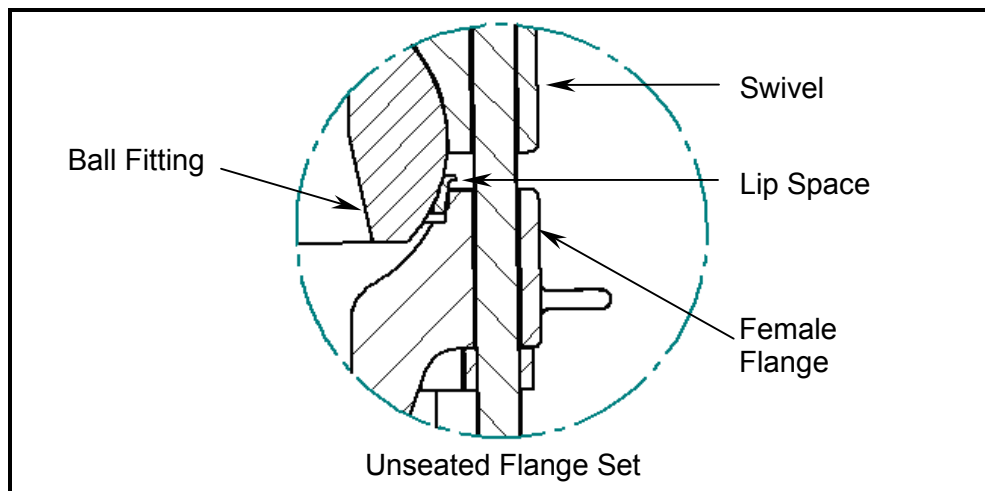

FIGURE 1-7
- Contact with seal ring in the female flange should be carefully performed as not to damage the seal surfaces. The lip space between flange face and seal ring should look like the illustration shown in Figure 1-7 below.